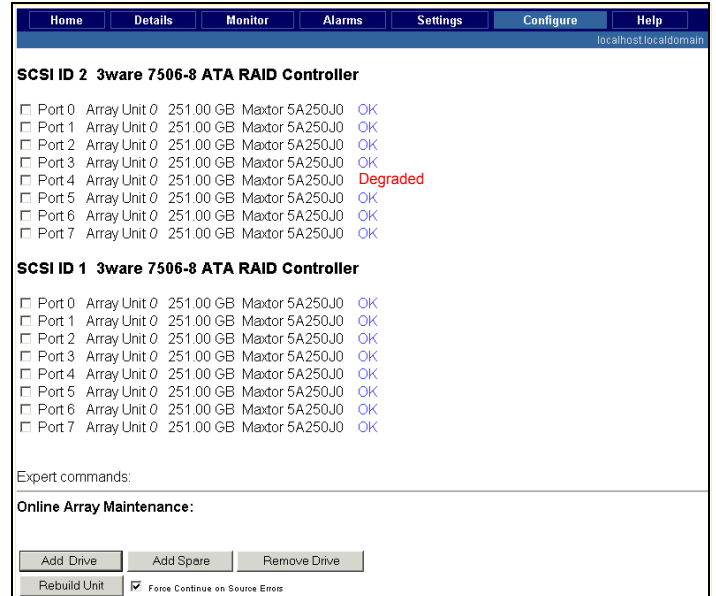

FIG. 2 Disk Management Utility - Configure page
4. Click on the **Configure** tab at the top of the screen to access the *Configure* page (FIG. 2) which lists all drives in each array and their status. If a drive has failed, it will be labeled "Degraded" rather than "OK".
- Click on the **Configure** tab at the top of the screen to access the *Configure* page (FIG. 2) which lists all drives in each array and their status. If a drive has failed, it will be indicated on this page (labeled "Degraded" rather than "OK").